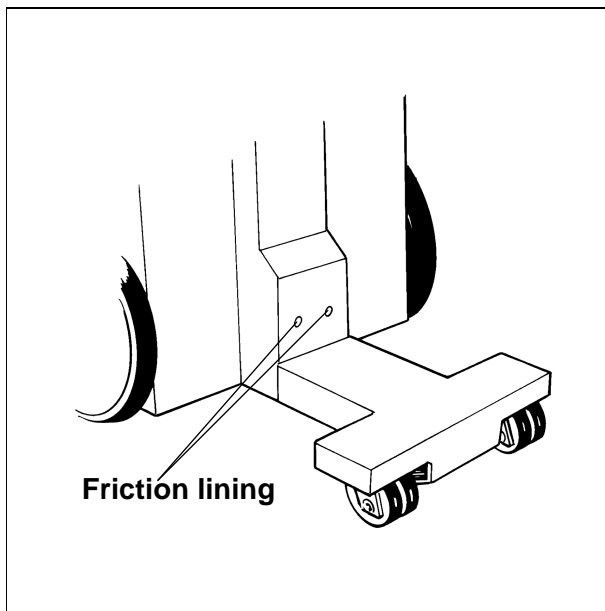
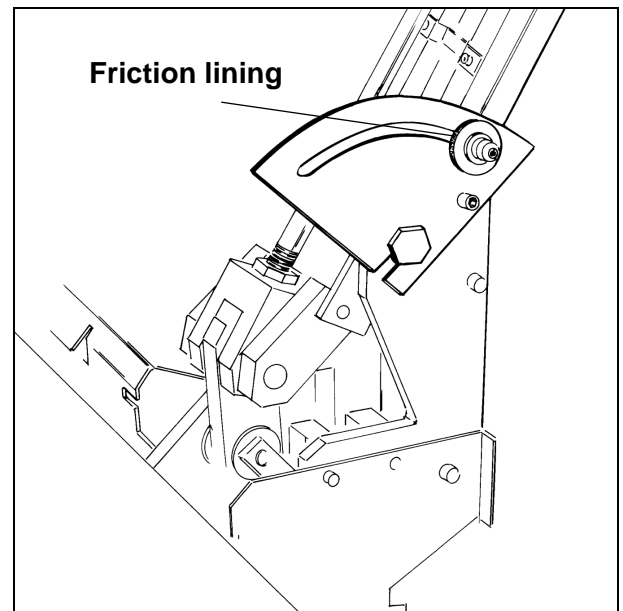

Fig. 4 For upper arm stability
Fig. 5 For lower arm stability
- Loosen the friction linings through the holes in the column (Fig. 4) and the lining in the lower joint (Fig. 5).
If the upper arm does not hold the position set, the friction lining can be adjusted through the holes in the cover (Fig. 4).
If the lower arm does not hold its position, it must be adjusted (Fig. 5).